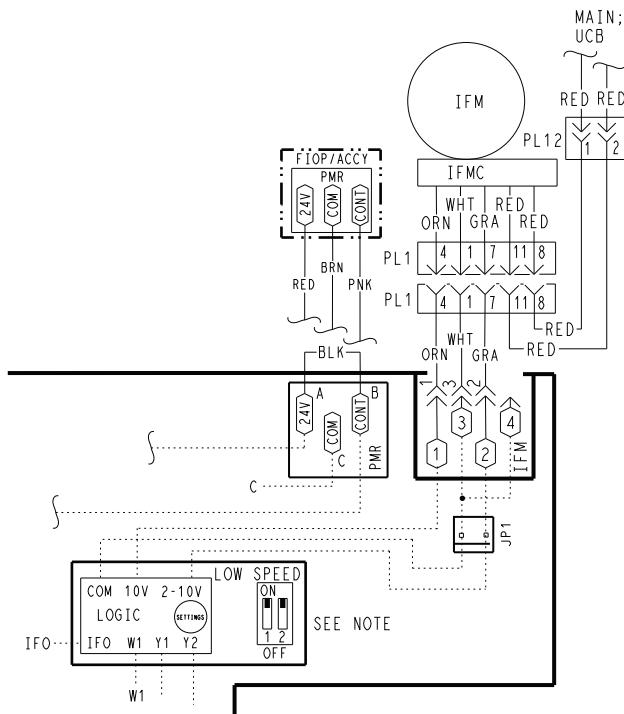

Fig. 40 — Supply Fan Control Wiring Diagram
8. Check for proper motor control voltage signal of 9.7 vdc to 10.3 vdc at IFM-1 and IFM-3 on Unit Control Board (UCB). See Fig. 40.